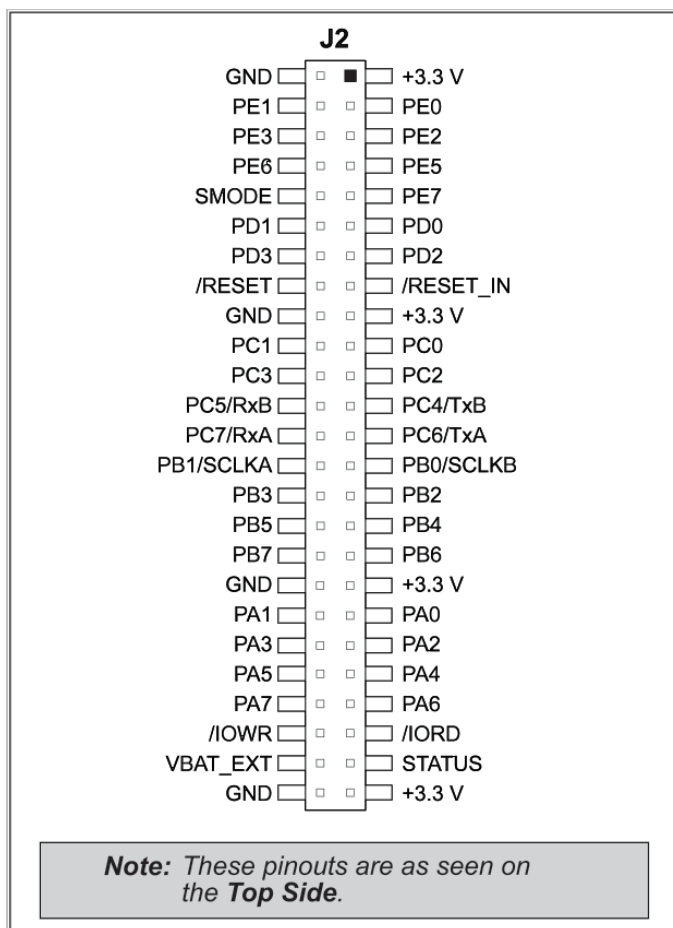

Figure C-4. MiniCore Boards Pinout
- **Module Extension Headers**—The complete pin set of the RCM5700 module is duplicated below header J2. Developers can solder wires directly into the appropriate holes, or, for more flexible development, a 2 × 25 header strip with a 0.1" pitch can be soldered into place. See Figure C-4 for the header pinouts.
The Prototyping Board provides the user with RCM5700 connection points brought out conveniently to labeled points below header J2. The pinouts for header socket J2 are shown in Figure C-4.